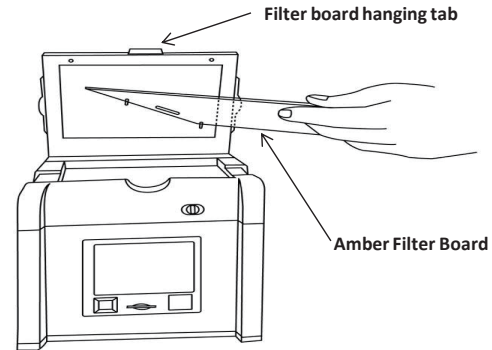

Figure 8
3. Position the amber filter board with the hole for hanging on lid in front (Figure 8).